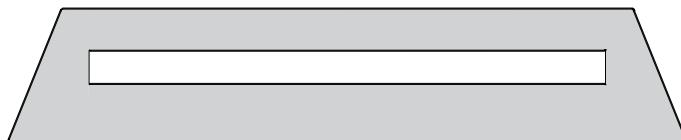

Figure 5
7. Place the crushed glass to the shaded area only. **See Figure 5.** Use enough to cover the floor of the fireplace, but do not allow the media to reach higher than the flange surrounding the burner. Never place decorative media inside the flange surrounding the burner itself.